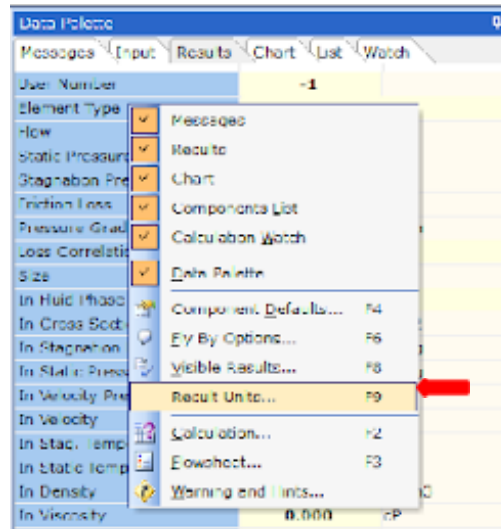

Figure 19: Result Units.
20. We can change our units by right mouse-clicking on the *Results* tab followed by selecting *Results Units* from the drop-down menu (Figure 19).